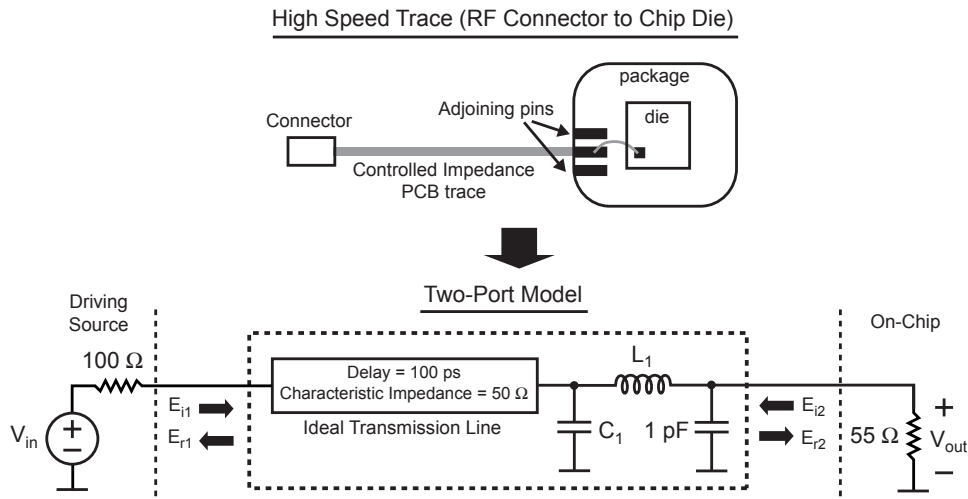

Figure 2: Example high speed trace and associated 2-port model.
4. Now consider the high speed trace and its associated two-port model shown in Figure 2, which is similar to that examined in Problem 1. In this case, we will relate the transmission line parameters to physical PCB characteristics, simulate the system, and observe eye diagrams of high speed data being sent across the trace. For all parts of this problem, assume that C_1 and L_1 are zero unless otherwise noted.